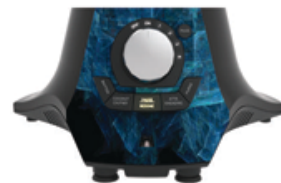

Figure 4
3. To add water or ingredients, stir or check the consistency, press the '**PAUSE/ RESUME**' button and open the lid; the '**PAUSE/ RESUME**' button will blink (refer figure 4)